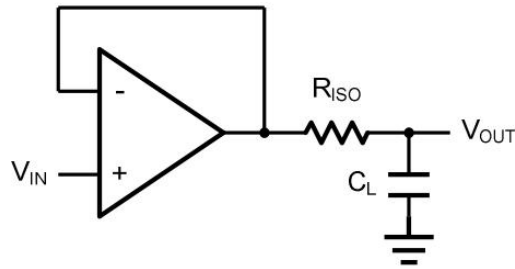
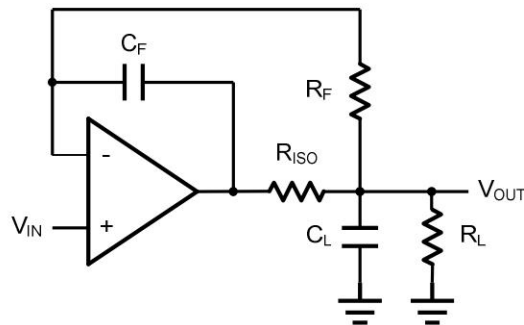

Figure 2. Indirectly Driving a Capacitive Load Using Isolation Resistor
Figure 3. Indirectly Driving a Capacitive Load with DC Accuracy
The AD857X family is optimized for bandwidth and speed, not for driving capacitive loads. Output capacitance will create a pole in the amplifier's feedback path, leading to excessive peaking and potential oscillation. If dealing with load capacitance is a requirement of the application, the two strategies to consider are (1) using a small resistor in series with the amplifier's output and the load capacitance and (2) reducing the bandwidth of the amplifier's feedback loop by increasing the overall noise gain. Figure 2. shows a unity gain follower using the series resistor strategy. The resistor isolates the output from the capacitance and, more importantly, creates a zero in the feedback path that compensates for the pole created by the output capacitance.
The circuit in Figure 3 is an improvement to the one in Figure 2. R_F provides the DC accuracy by feed-forward the V_{IN} to R_L . C_F and R_{ISO} serve to counteract the loss of phase margin by feeding the high frequency component of the output signal back to the amplifier's inverting input, thereby preserving the phase margin in the overall feedback loop. Capacitive drive can be increased by increasing the value of C_F . This in turn will slow down the pulse response.